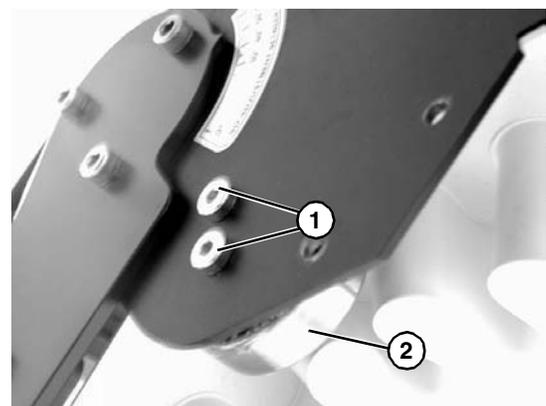

Figure 19
5. Remove screws (Figure 19, item 1) and remove roller bearing (Figure 19, item 2).